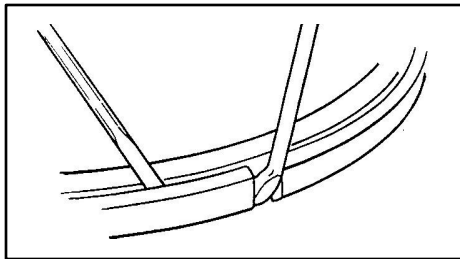

Figure 7
1. Stand inside the tire rim. Remove the lock ring with two pry bars. Start at the split in the ring and then work the tools around the ring. (See Fig. 7.)